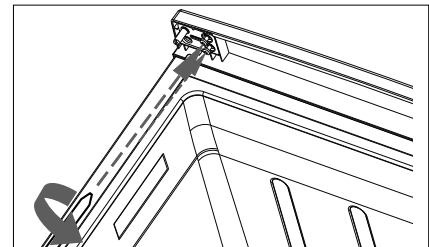

Fig. 8
- ▶ Use a Phillips screwdriver to fasten the upper hinge to the left side with the two retaining screws (Fig. 8).